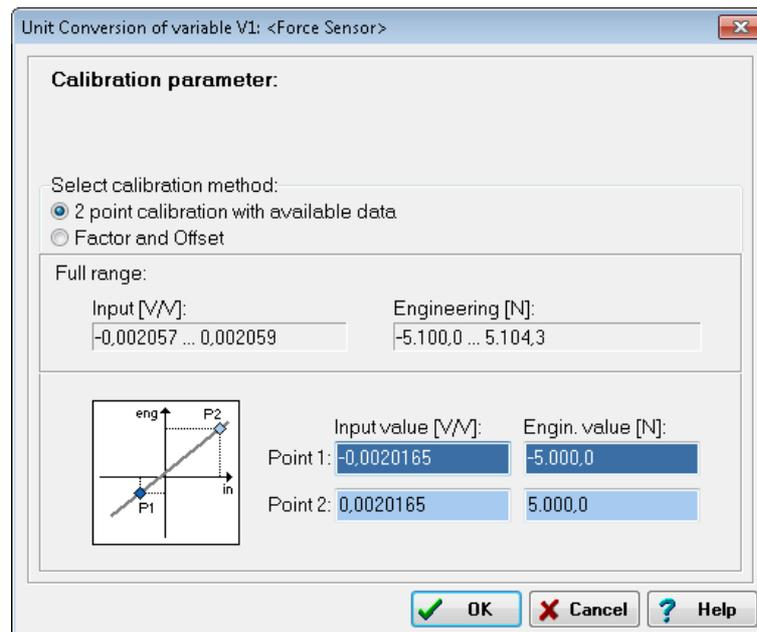

Fig. 6-6 Scaling dialog
3. Enter the transducer (sensor) data from the calibration certificate or from the data sheet (example: refer to Fig. 6-6 on page 122).